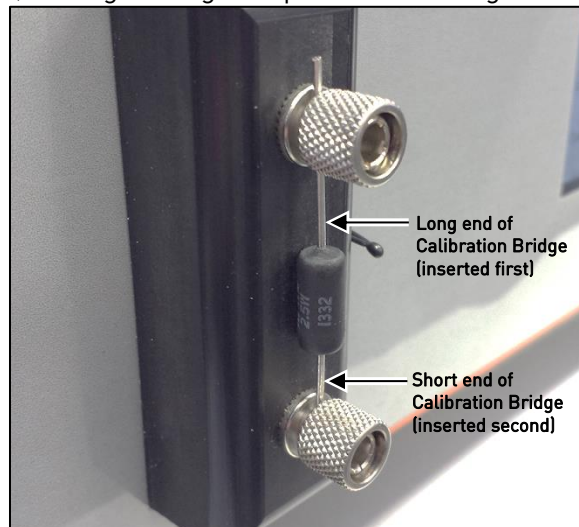

Figure 24 - Calibration Bridge in CAT-100 Binding Posts
2. Connect the Calibration Bridge to the binding posts (It is *not* necessary to sand the calibration bridge). Do this by first inserting the **long end** of the Calibration Bridge into a binding post first, tightening that post, then inserting the **short end** of the Calibration Bridge in the other binding post, and tightening that post. See Figure 24.